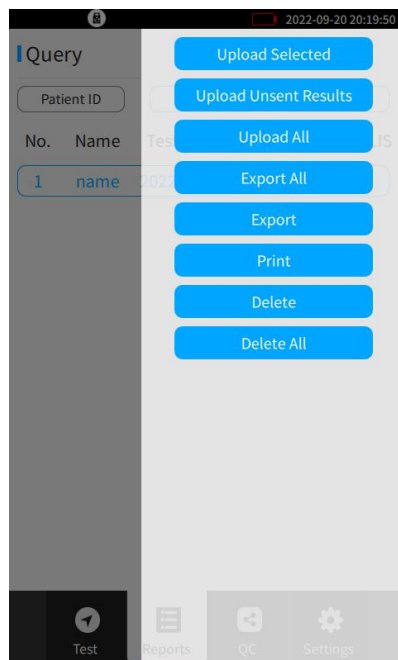

Figure 3-25
**【Data processing】** Click **【☰】** to enter the interface shown in Figure 3-25